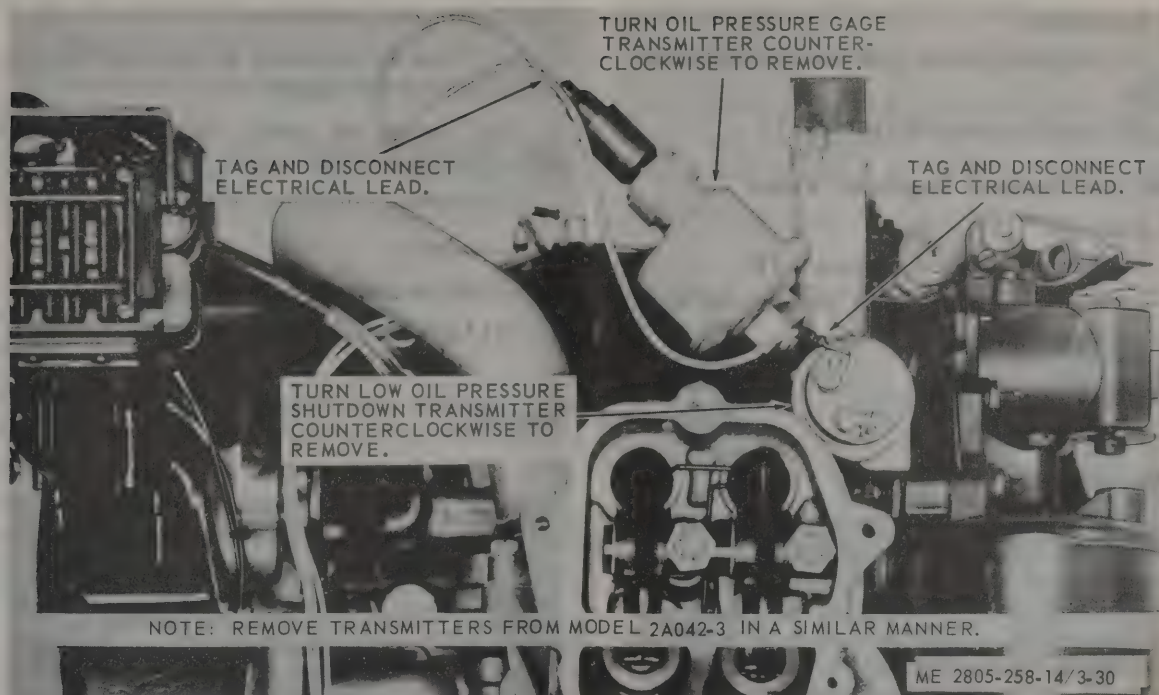

Figure 3-30. Low oil pressure shutdown transmitter, and oil pressure gage transmitter, removal and installation.
(1) Remove top shroud (para 3-17).
(2) Refer to figure 3-30 and remove low oil pressure shutdown transmitter.
(1) Refer to figure 3-30 and install low oil pressure shutdown transmitter.
(2) Install top shroud (para 3-17).
(2) Refer to figure 3-30 and remove pressure gage transmitter.
- (1) Refer to figure 3-30 and install transmitter.
- (2) Install top shroud (para 3-17).